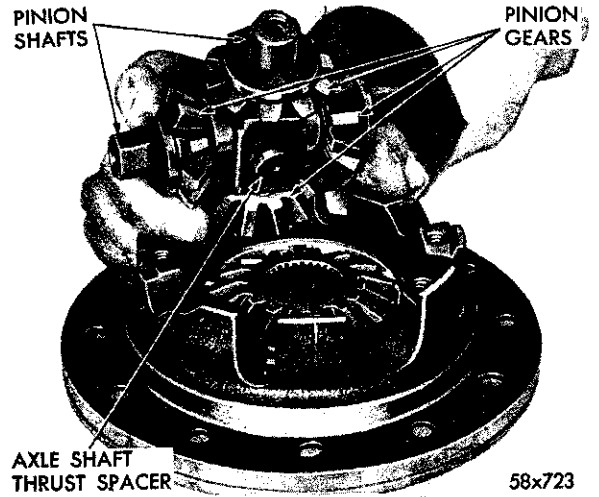

Fig. 37—Removing or Installing Pinion Shafts and Gears
(4) Remove the pinion shafts with the pinion gears (Fig. 37).